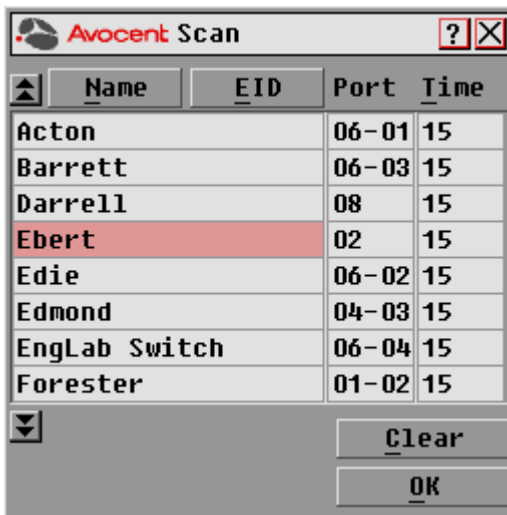

Figure 3.11: OSCAR Interface Scan Dialog Box
2. Click *Setup - Scan* to open the Scan dialog box as shown in Figure 3.11.